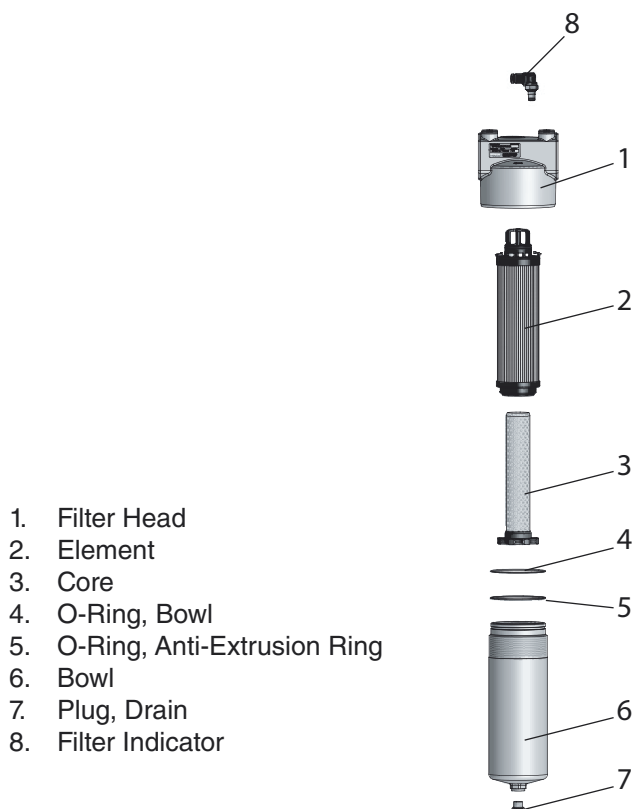

Figure 3 Parts Identification
4. Push down to squeeze tangs and lift element (see Figure 3).